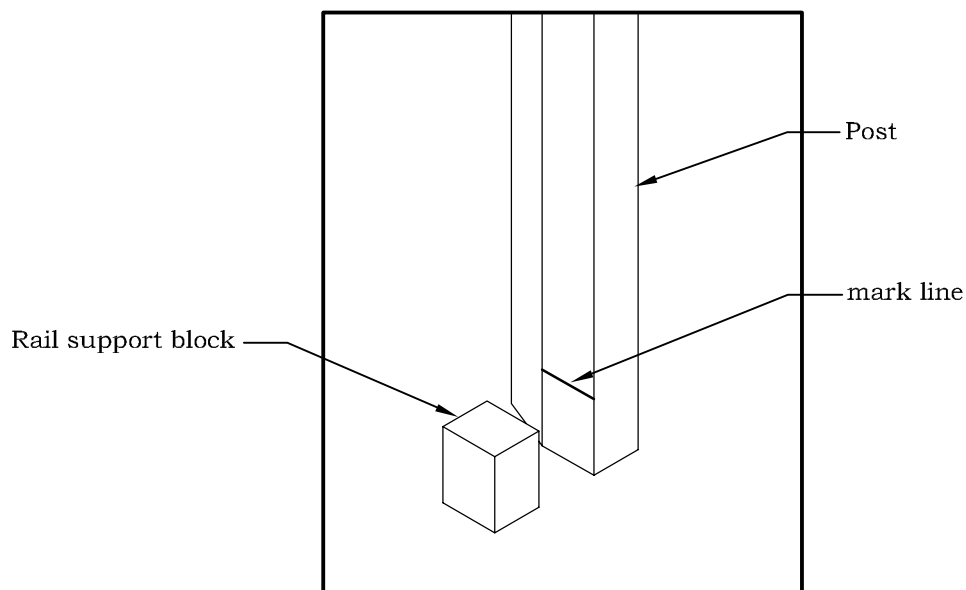

FIGURE S11
2. Using a Rail support block as a template, mark the bottom of left Posts and right Posts. The mark should be made on the flat sides of the post - not the beveled sides. See Figure S11. This mark will be used when mounting the bottom rail.